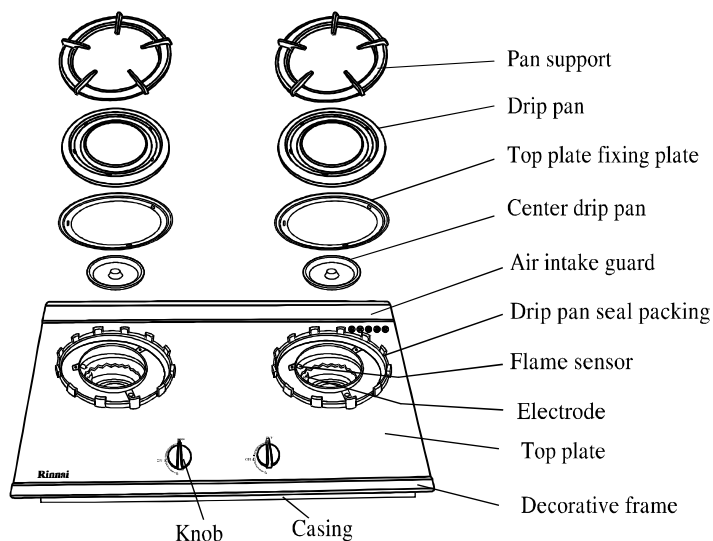

Fig.3
- * Fit pan support legs into top plate. (Fig3)